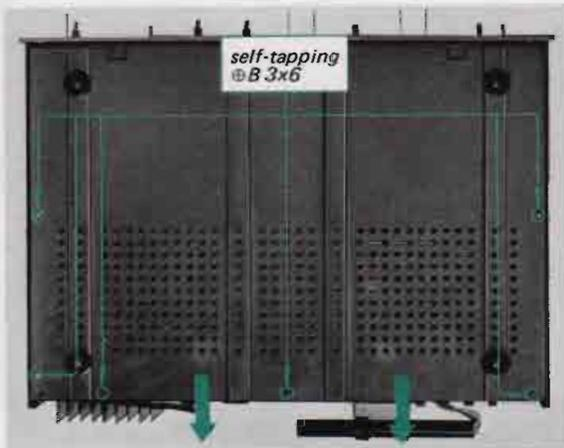

Fig. 2-2. Bottom plate removal
2. Remove the six self-tapping screws (⊕B 3×6) at the bottom of the receiver and pull the bottom plate in the direction indicated by the arrow in Fig. 2-2.